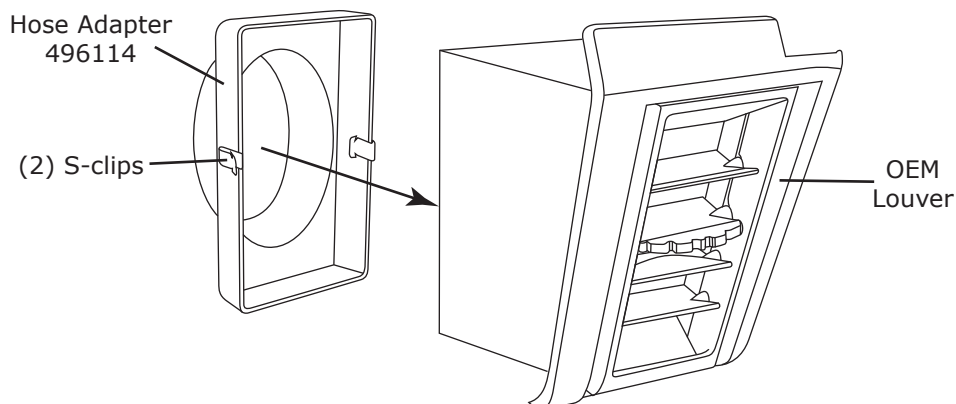

Figure 5
1. Install (2) S-clips onto driver and passenger side louver hose adapters (See Figure 5, below).
2. Install driver and passenger side hose adapters onto OEM driver and passenger side louvers as shown in Figure 5, below.